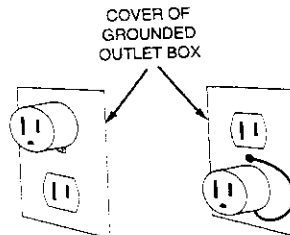

Figure 3
- Do not use a 3-prong to 2-prong grounding adapter unless permitted by local and national codes and ordinances. (A 3-prong to 2-prong adapter is not permitted in Canada.) Where permitted, the rigid green tab or terminal on the side of the adapter must be securely connected to a permanent electrical ground such as a properly grounded cover plate screw, a properly grounded water pipe, a properly grounded outlet box, or a proper ground wire system (See Figure 3). Many cover plate screws, water pipes and outlet boxes are not properly grounded.